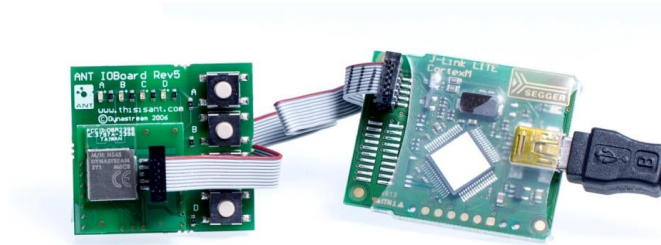
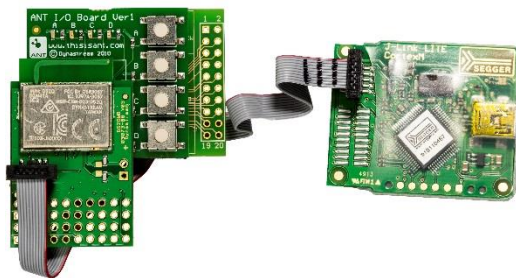

Figure 3-3. Stacked N5 Module with Segger JLink Programmer Ribbon Cable
Figure 3-4. Stacked D52Q Module with Segger JLink Programmer Ribbon Cable
- Attach the JLink Segger Ribbon Cable to the programming header on the ANT SoC module as shown in Figure 3-3 and Figure 3-4.